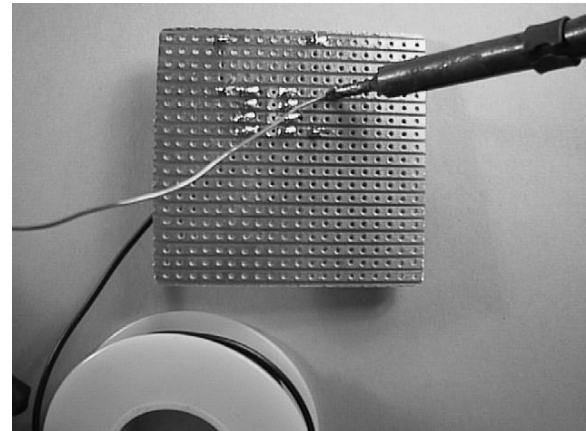

FIGURE 22.13
**Solder wire links:** See p. 83 for soldering procedures. It is usually best to start by soldering one stripped end of the wire into its hole (see Figure 22.13).